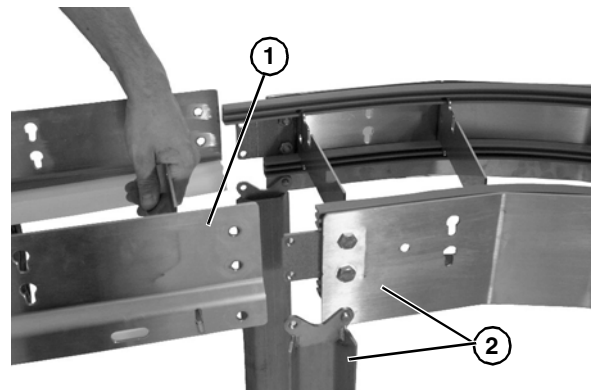

Figure 53
4. Lift up on straight section (**Figure 53, item 1**) and remove from curve section and conveyor stand (**Figure 53, item 2**). Be sure to support free end of straight section once removed.